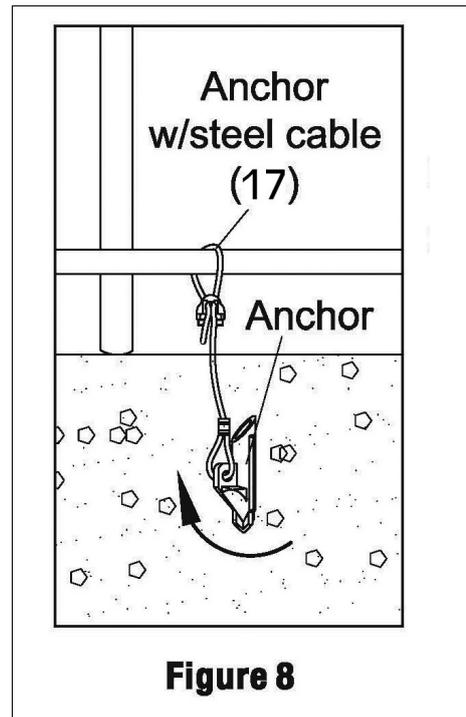

Figure 8
1. From the inside of the garage, place the anchors with Steel Cable (18) on all four corners. Place the remainder of the anchors on the inside of the Bows at intervals. See Figure 8.
5. After placing all the anchors, wrap the Wire Cable from each Anchor, around the Bottom Rails and securely attach it to itself using clamps (25) (not shown). See Figure 8